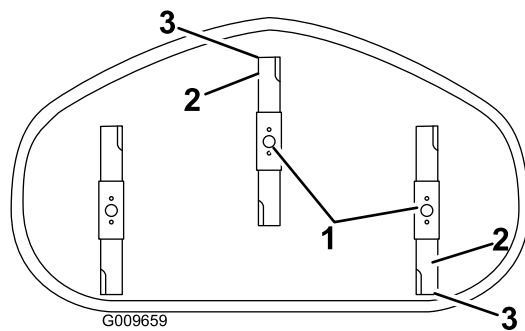

Figure 54
4. Carefully rotate the blades so they are facing front to rear (Figure 54).
5. Measure from the tip of the front blade to the flat surface and the tip of the rear blade to the flat surface (Figure 54). If the front blade tip is not 1.6 to 7.9 mm (1/16 to 5/16 inch) lower than the rear blade tip, adjust the front locknut.
8. After adjustment, check the front-to-rear slope again. Continue adjusting the nut until the front blade tip is 1/16 to 5/16 inch (1.6 to 7.9 mm) lower than the rear blade tip (Figure 54).